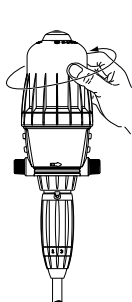

Fig. 16
- Unscrew and remove bell-housing by hand (**Fig. 16**).